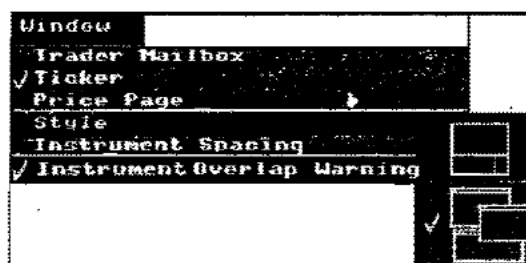

Figure 10.8 Style Choices on Window Menu
1. Choose Window on the menu bar. Choose Style. The secondary Style menu shown in Figure 10.8 displays.